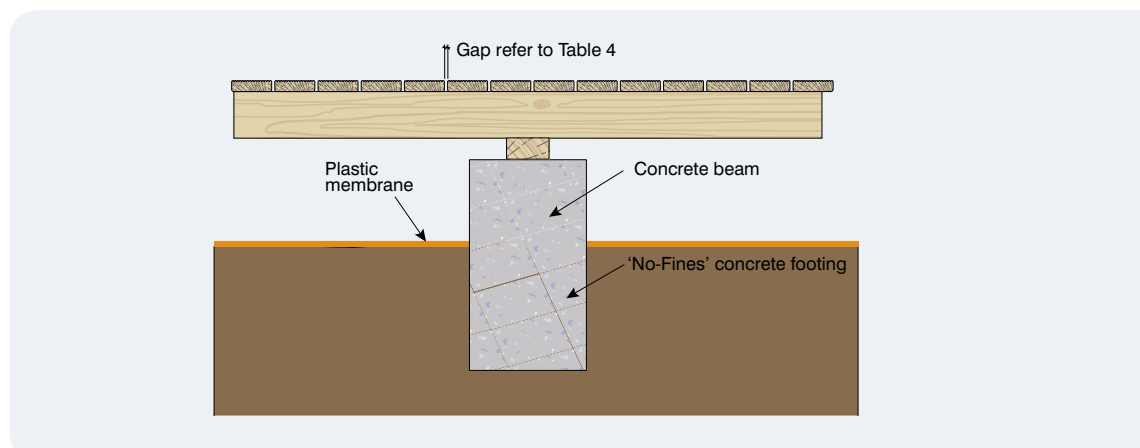

Figure 21: Concrete beam footing
- Concrete beams, with joists sitting on top, with no need for bearers (Figure 21).